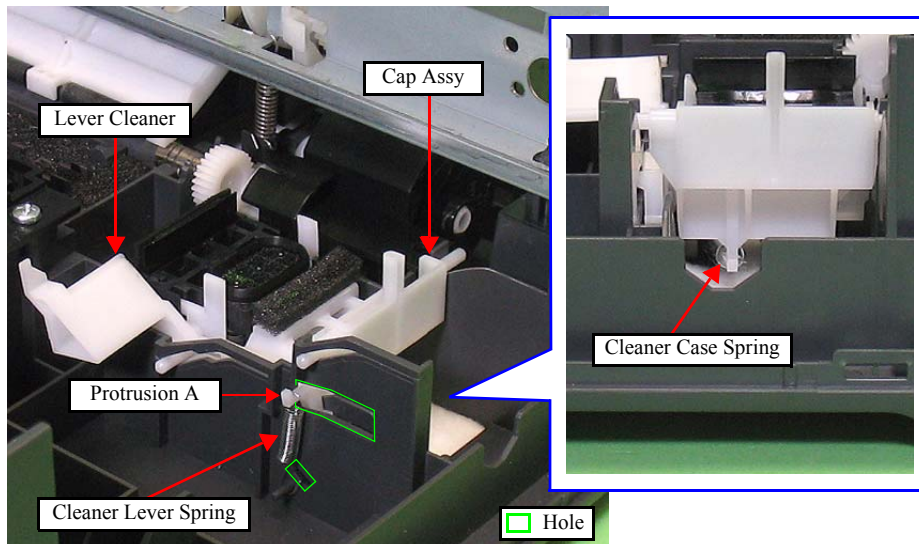

Figure 4-49. Removing the Cap Assy (1)
- When installing the Cleaner Lever Spring, insert the longer end of the spring into the Lower Housing, and secure it to the protrusion A of the Cleaner Lever attached through the hole of the Lower Housing. (See Fig.4-49.)